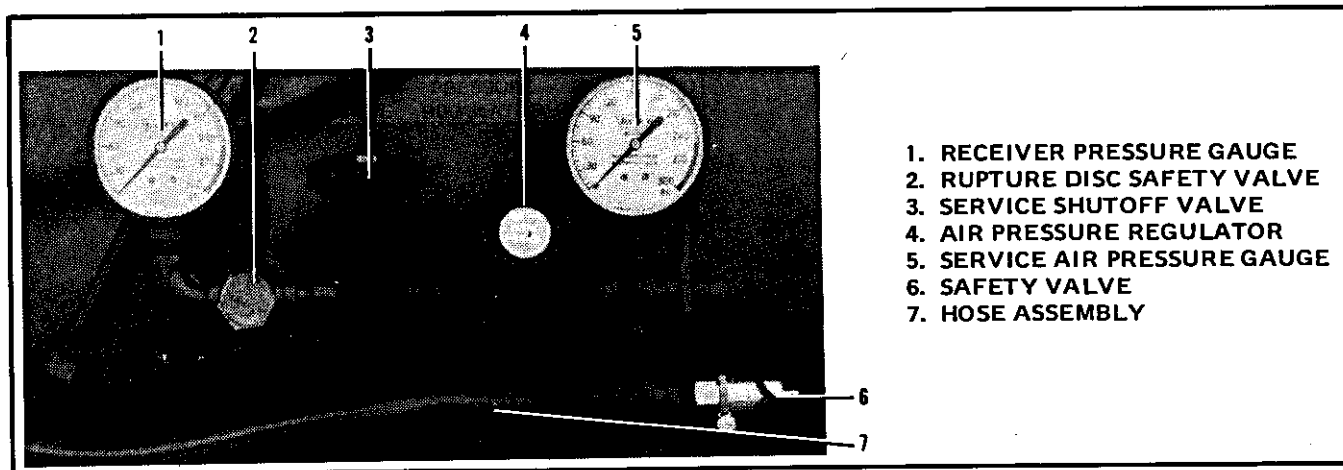

Figure 4-2. Service Outlet Assembly
- (6) Receiver pressure gauge (1, figure 4-2). The receiver pressure gauge indicates the compressed air pressure within the air receiver tank.
- (7) Rupture disc (2, figure 4-2). The rupture disc is a safety device to protect against excessive overpressure within the air receiver tank. Should pressure within the tank exceed 350 psi (at 72°F), the disc will rupture and allow receiver air to be expelled.
(8) Shutoff valve (3, figure 4-2). The shutoff valve is used to open or close off the flow of air from the receiver tank to the air pressure regulator.
(9) Air pressure regulator (4, figure 4-2). The air pressure regulator is used to regulate the flow of air to the air service hose. This air is directed to the hose reel assembly via hose assembly (7). This system is protected by a safety valve (6) set at 240 psi.
(10) Service air pressure gauge (5, figure 4-2). This gauge indicates the pressure setting of the air pressure regulator and service air being directed to the service hose reel.
- a. Open drain cocks in the bottom of the oil cooler (4, figure 1-2) and in the bottom of the air receiver assembly (10) and drain all accumulated water. Close the drain cocks. Make certain that receiver drain valve (18) and shutoff valve (3, figure 4-2) are closed.
- d. Allow unit to run until a minimum of 100 psi is indicated on receiver pressure gauge (1, figure 4-2) before putting the unit to use on a pneumatic system.
- b. Allow the equipment to run until working pressure of system being serviced is indicated on receiver pressure gauge (1, figure 4-2).
- c. Open shutoff valve (3, figure 4-2) and adjust air pressure regulator (4) to the pressure required for system being serviced. This pressure is indicated on pressure gauge (5).
- a. Close the shutoff valve (3, figure 4-2).